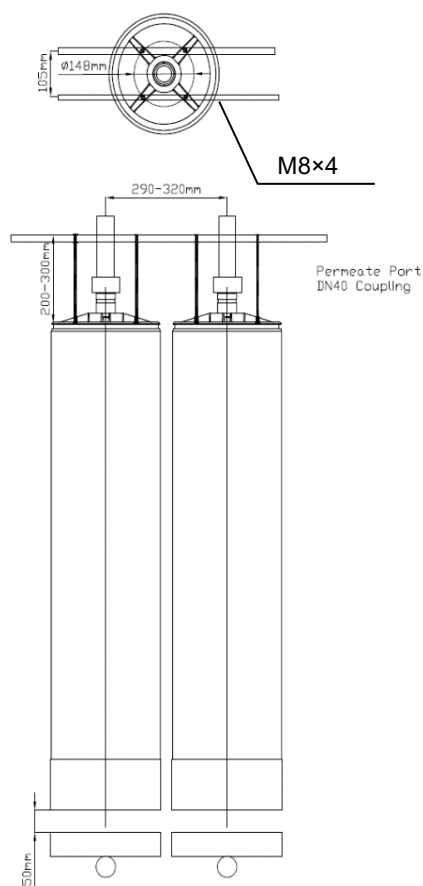
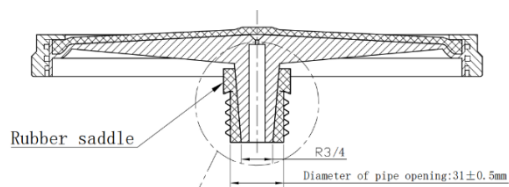

Figure 1. Module installation
Figure 2. Aeration disc installation diagram
1. The SpiraSep 1060 ultrafiltration membrane is supported by membrane frame, and the frame size is designed according to the actual number of membranes. For the design distance, which is based on the design of the membrane frame, see Figure 1. For the installation of the aeration disc, see Figure 2.